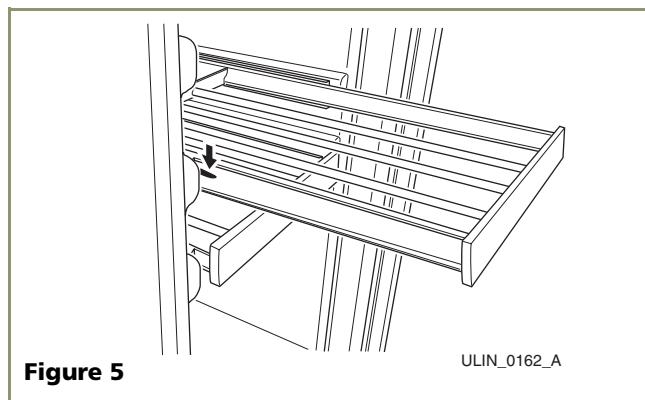

Figure 5
3. Press the left rack release lever (**Figure 5**) down, and at the same time, lift the corresponding right rack release lever up, and pull the rack out until it is free of the tracks and the cabinet.